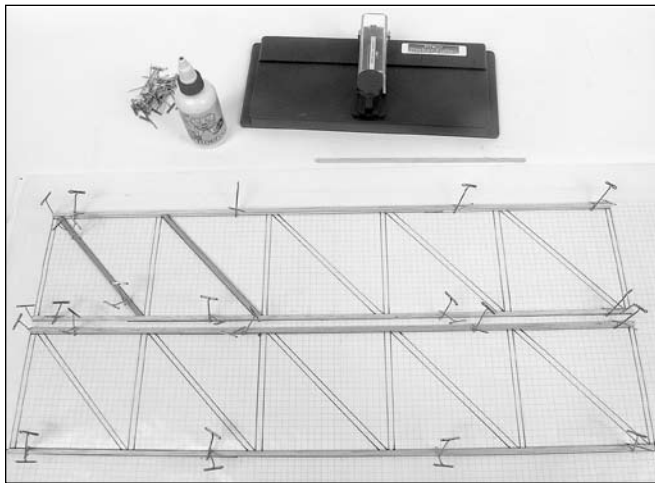

Figure 33 – Long balsa wood pieces pinned in place and some diagonal braces glued in place
- Measure, mark, and cut all the long pieces. Position them in place using pins (Figure 33).